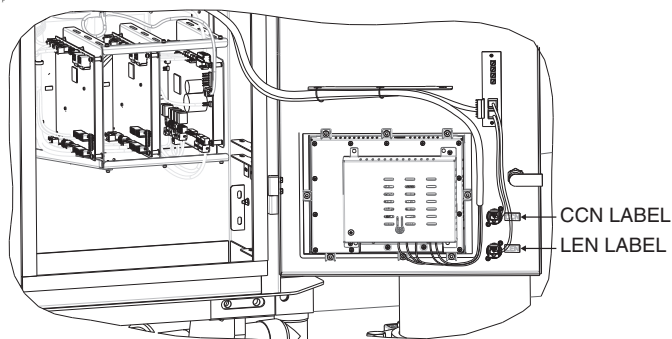

Fig. 25 — PIC6 Wiring
7. Disconnect the communication cables from the back of the PIC6 (Fig. 25).